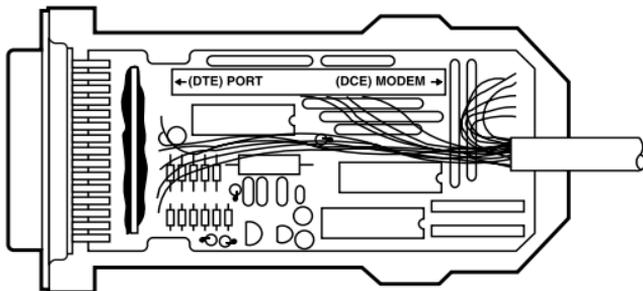

Figure 2. V.24 DTE , V.35 DCE.
The converter is factory-strapped for V.24 DTE/V.35 DCE as shown in Figure 2.
3. Locate the 40-pin DTE/DCE socket on the connector circuit board. Figure 2 illustrates the board's factory configuration.